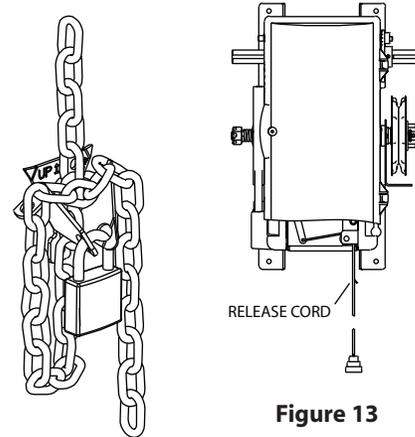

Figure 13
- 6) Install release cable. **Fig. 13.**